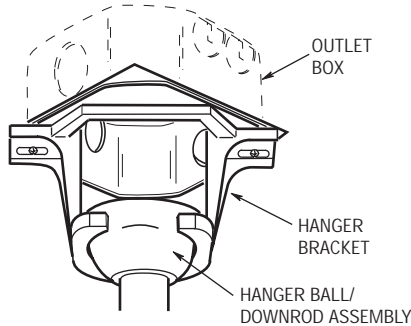

Figure 8
- 2. Carefully lift the fan and seat the hanger ball/downrod assembly on the hanger bracket that was just attached to the outlet box (Figure 8). Be sure the groove in the ball is lined up with tab on the hanger bracket (Figure 7).